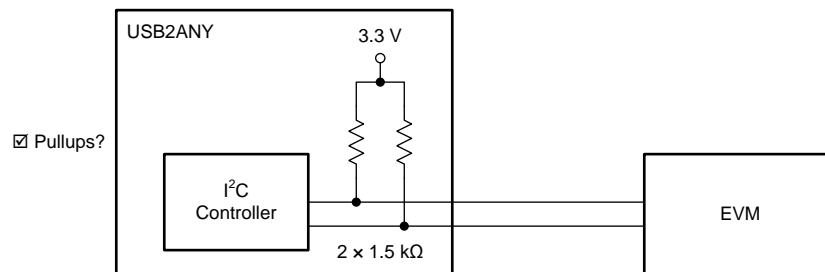

Figure 11. I²C Bus Internal Pullup Connection
- Check the *Pullups?* checkbox if using the I²C pullup resistors in the USB2ANY interface adapter (refer to Figure 11). This is the most common setting.